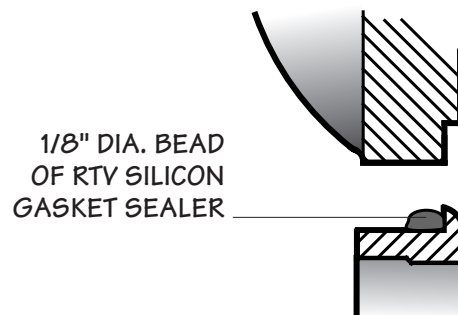

Figure 5 Flange Seal of Bottom Bearing Cap
1. Press ring gear hub (8) and the upper and lower bearing cones (411 and 412) on the fan shaft (201). Install ring gear (101) on ring gear hub and tighten cap screws to 90 ft·lb_f (123 N·m).
2. Install upper fan shaft bearing cup (412) and bearing retainer without shims.
3. Turn the Geareducer case upside down and install the fan shaft assembly seating the upper fan shaft bearing cone into its cup. Install the lower bearing cup (411).
4. Install the bottom cover cap using sealer as indicated in Figure 5 and tighten cap screws to 25 ft·lb_f (34 N·m). Use old shim pack or make up equivalent thickness shim pack (420) and install the bottom bearing retainer cap. Do not install the O-ring for the bottom bearing retainer at this time. Tighten the cap screws to 25 ft·lb_f (34 N·m).